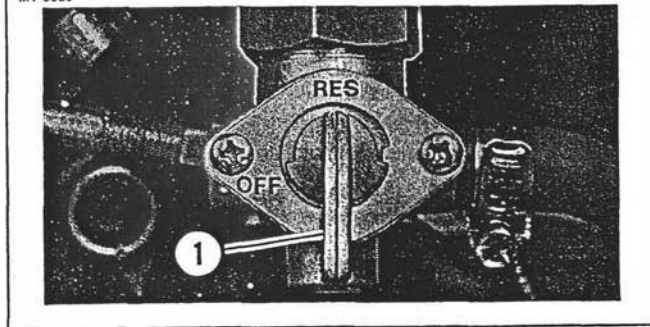

Figure 5-6. Fuel Control Valve - ON Position
4. See Figure 5-6. Set fuel control valve (1) to ON position and allow fuel to drain from hose into container until fuel tank is empty.